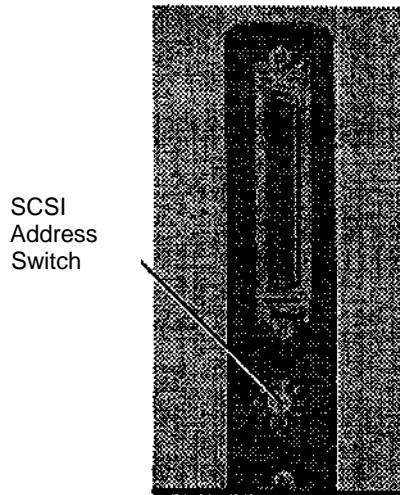

Figure 6-23. SCSI Address Switch
6. (Figure 6-23): Rotate the SCSI Address Switch to indicate 0.